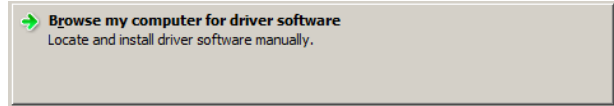

Figure 4: Browse for driver
6. Choose 'Browse my computer for driver software' as shown in Figure 4.